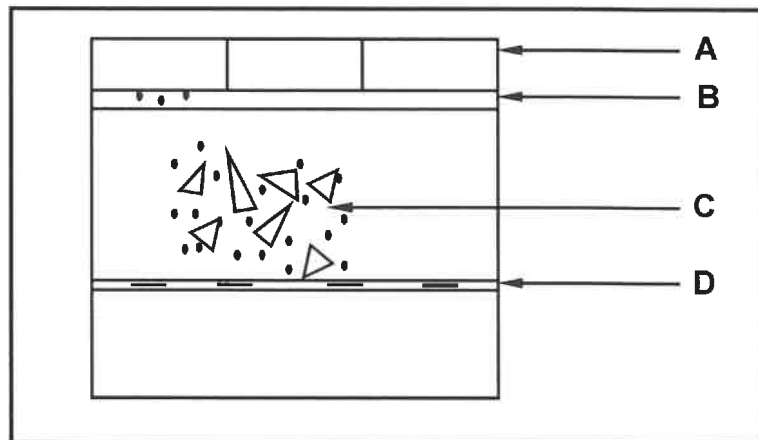

FIGURE 5.5
- 5.5 FIGURE 5.5 below shows a vertical sectional view through paving. Study FIGURE 5.5 and answer the questions that follow.